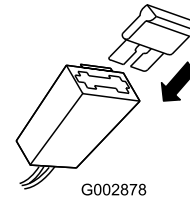

Figure 9
2. Install the fuse in the fuse holder as shown (Figure 9).